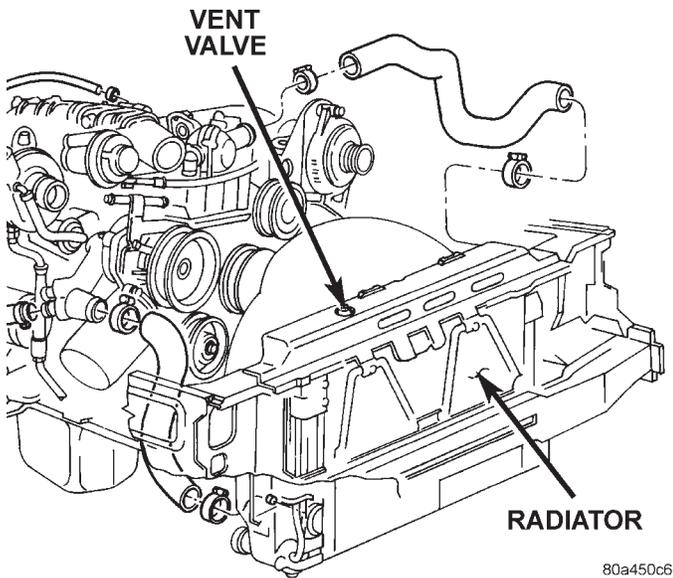

Fig. 13 Radiator Fill Vent Valve
(1) Tighten the radiator draincock and (if removed), the cylinder block drain-plug.
(2) Remove the plastic radiator fill vent valve (unscrews counter-clockwise) from the radiator. The fill vent valve is located on the top of the right radiator tank (Fig. 13).